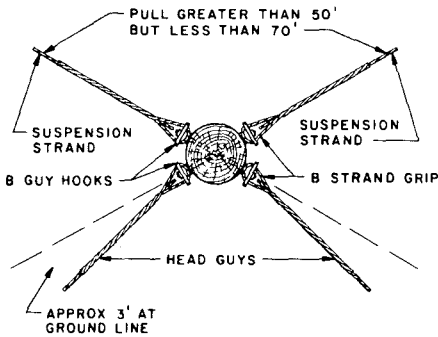

Fig. 2—Corner Pole With Two Head Guys
2.03 Where the pull on the corner pole exceeds 50 feet, but is less than a right angle, place two head guys as shown in Fig. 2.